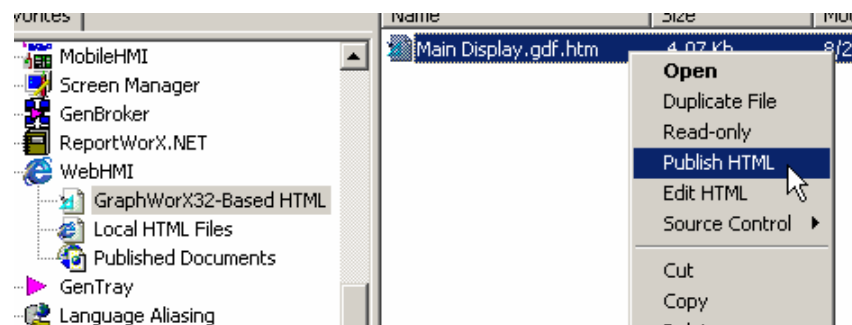

Figure 4.42. Publishing a Locally Stored HTML File
- Right-click on any HTML file in the **Applications/WebHMI/GraphWorX-Based HTML** tree and select **Publish HTML** from the pop-up menu, as shown in Figure 4.42.